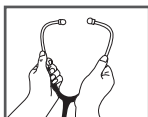

Fig. 1
2. To reduce spring tension, grasp each eartube at its bend and gently pull outwards as shown in Fig 1.